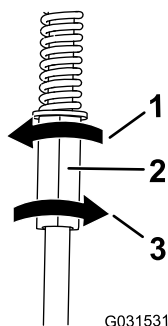

Figure 51
4. Rotate the left control rod in quarter-turn increments until the machine tracks straight (Figure 51).